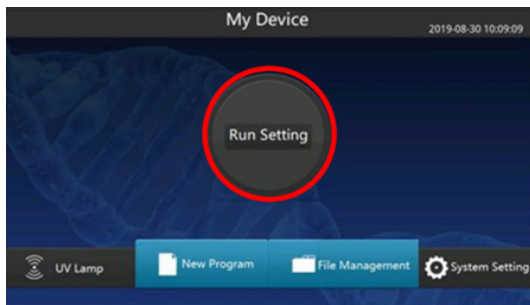

Figure 2 :Main control interface of the CleanXtract 96 with Run Setting shown in the red circle.
7. Select “Run setting” in the middle of the CleanXtract 96 display as shown in Figure 2.